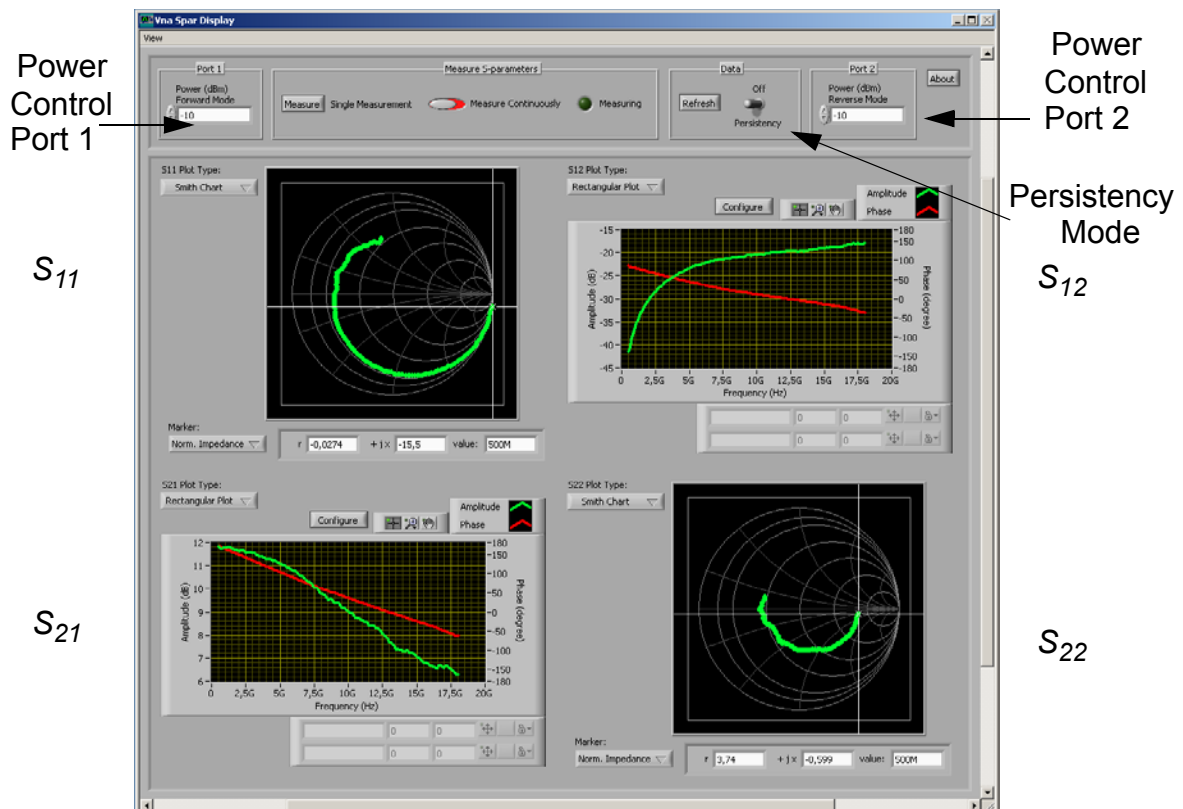

Figure 5. S-parameter measurements.
- S-parameter measurements in uncalibrated and calibrated mode (figure 5)